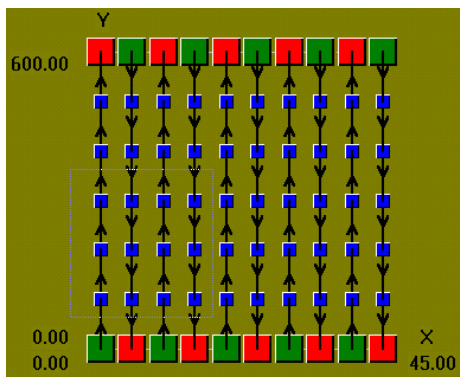
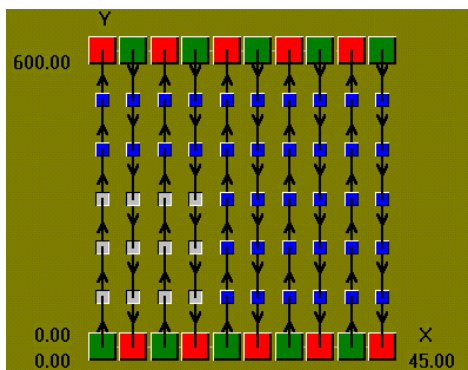

Figure 42
Figure 43
- To select a group of positions click the left mouse button and draw a rectangle around the positions to select (Figure 42). When you have finished drawing the rectangle, release the left button. Every position inside that rectangle will be selected (indicated by a white square) as shown in Figure 43.
For example, suppose that the back edge of the map plotted in Figure 42 should be sloped in the following manner: